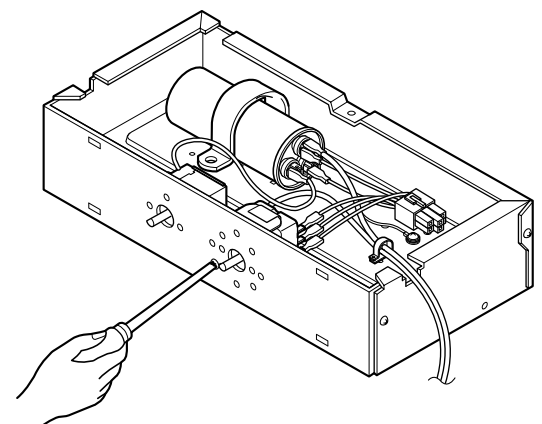

Figure 14
5. Re-install the components by referring to the above removal procedure. (See Figure 14)